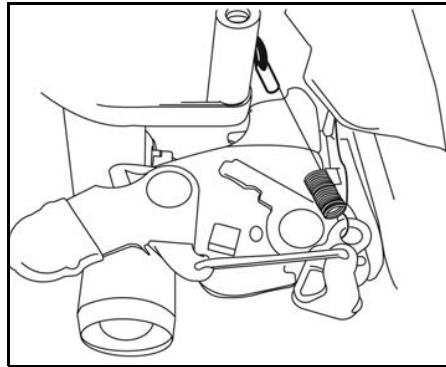

Figure 4
- Figure 4 - Vertical Shaft Models 110000, 120000, 210000 (Primer Carburetors).